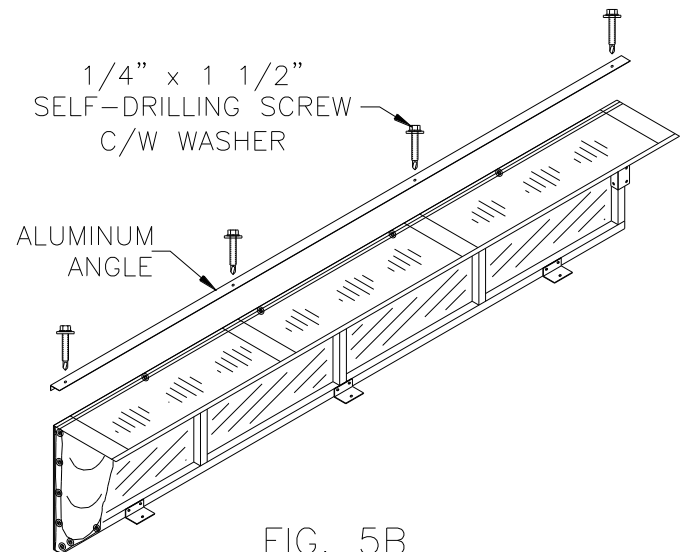

FIG. 5B
- a. **Place Aluminum Angle** along front edge of Vertical Frame (Figure 5b).